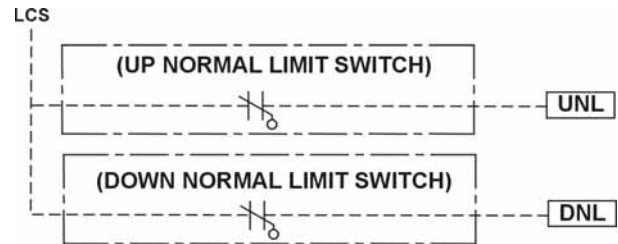

Figure 1-19
**Directional Limits (normal limits):** Directional limits are also used at both the bottom and top of the hoistway. They are usually set to activate prior to floor level, so a car traveling at 50 fpm in either direction will strike its appropriate switch and stop approximately floor level. This distance should be approximately 1" below top floor and 1" above bottom floor. [See Figure 1-19.] Each of these switches wires directly to the controller. See Wiring Diagrams.